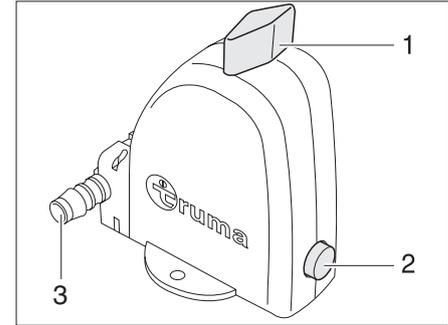

Fig. 84 Safety/drainage valve of the boiler - Operation position
The boiler is equipped with a safety/drainage valve (Fig. 84). The safety/drainage valve prevents water in the boiler from freezing, when there is frost and the heater is not switched on. If there is a danger of frost (at approx. 3 °C ambient temperature), the water is drained intermittently at overpressure via a drain neck. The safety/drainage valve cannot be closed manually until the ambient temperature lies within the frost-proof range (approx. 7 °C ambient temperature).
The drainage neck (Fig. 84,3) of the safety/drainage valve has to be free of dirt (e.g. leaves, ice) at all times.
- ▶ Turn the knob (Fig. 84,1) 90° lengthwise to the safety/drainage valve.
The push button (Fig. 84,2) trips. The boiler is drained to the outside by the drainage neck (Fig. 84,3) of the safety/drainage valve.
- ▶ Turn the knob (Fig. 84,1) 90° crosswise to the safety/drainage valve.
- ▶ Push in the pushbutton (Fig. 84,2).